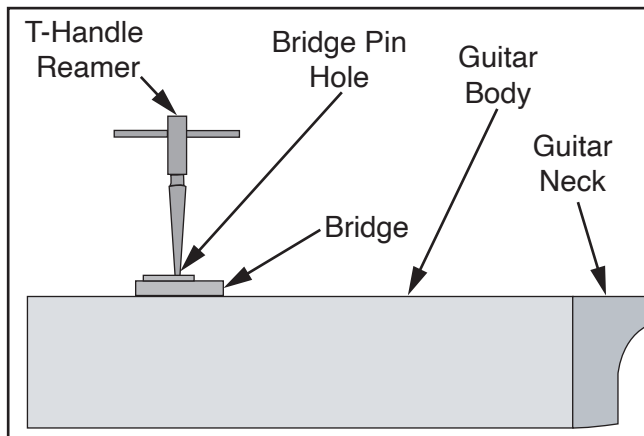

Figure 23. Reaming bridge pin hole.
4. Place T-handle reamer in (1) bridge pin hole, and gently twist reamer clockwise, making one complete revolution (see **Figure 23**).